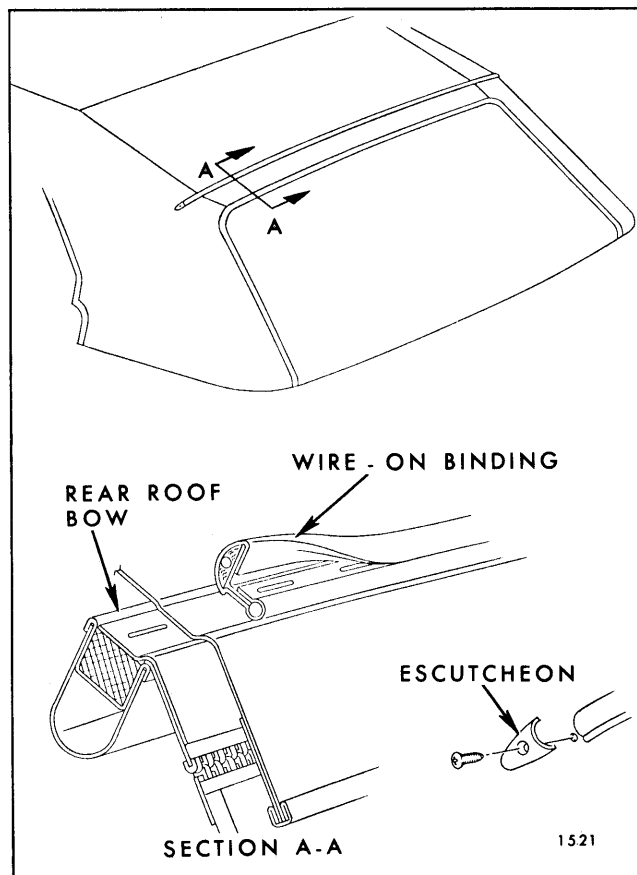

Fig. 13-8—Rear Roof Bow Wire-On Binding
22. Remove screw securing escutcheon clip at each end of wire-on binding on rear bow. Remove wire-on binding from rear bow. Detach top material from rear roof bow and from trim sticks, then remove top cover assembly (Fig. 13-8).